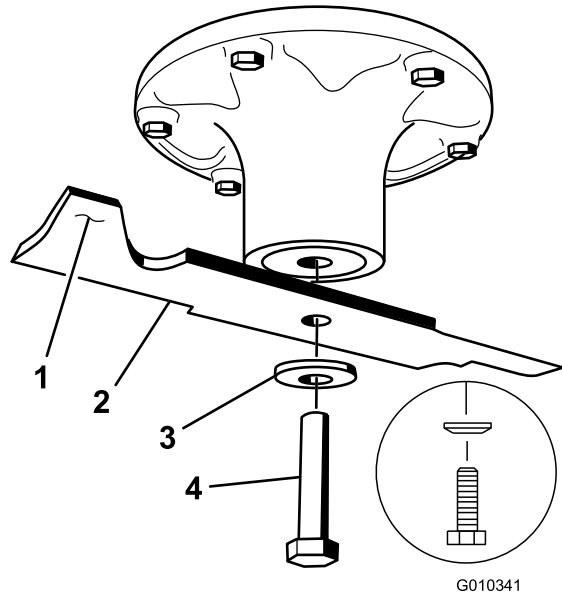

Figure 58
2. Remove the blade bolt, curved washer, and blade from the spindle shaft (Figure 58).